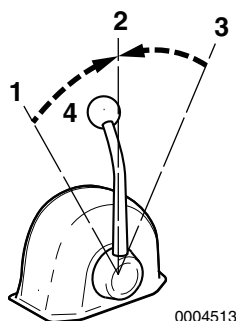

Figure 2
Use the throttle handle (**Figure 2, (4)**) to control acceleration and deceleration. Move the handle slowly.
2. When moving the handle between FORWARD (**Figure 2, (1 or 3)**) and REVERSE (**Figure 2, (3 or 1)**), bring the handle to NEUTRAL (**Figure 2, (2)**) and pause before slowly shifting to the desired position. Never shift abruptly from FORWARD to REVERSE or vice versa.